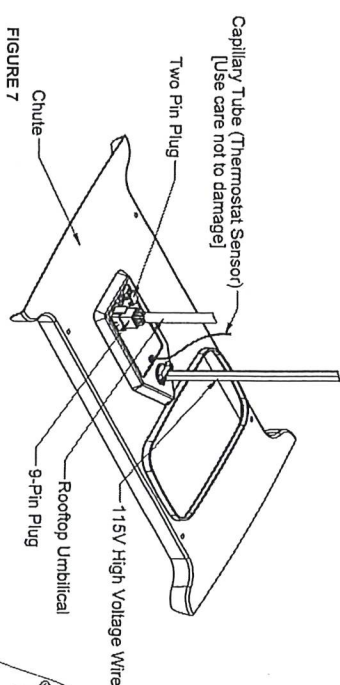

FIGURE 7
- Raise the ceiling assembly chute and insert the supply wiring through the cable clamp and into the wiring box so that 4-6" of supply conductor is inside the box. Secure the cable clamp over the supply wire sheath so that no movement is possible (See Figure 7).
- Plug the air conditioner electrical conduit into the 9-position receptacle as shown in Figure 7.
- If the optional heater accessory package is being installed, remove the cover from the 2-position receptacle and plug the heater cord into the receptacle as shown in Figure 7.